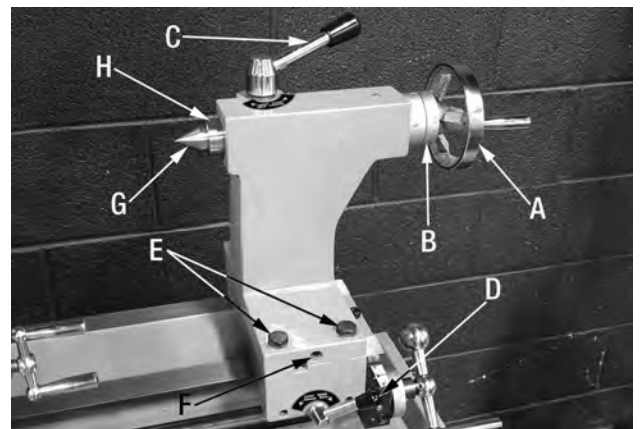

FIGURE 12
1. Tailstock handwheel (A) Fig.12. Turning this handwheel moves the tailstock quill in or out. The graduated dial (B) on the handwheel is adjustable.
2. Quill lock lever (C) Fig.12. This lever locks the tailstock quill.
3. Tailstock lock lever (D) Fig.12. This lever locks the tailstock to the lathe bed.
4. Offset mechanism. Loosening the four hex. bolts (E) and adjusting screw (F) the tailstock can be adjusted offset from the centre, this allows taper turning operations when a workpiece is held between centres.
The dead centre (G) Fig.12 is used to support workpiece that is too long to be supported by only the chuck. Before installing the dead centre, make sure the mating surfaces are very clean.
1. Insert the end of the dead centre (G) Fig.12 into the tailstock quill (H) Fig.12 until it seats.